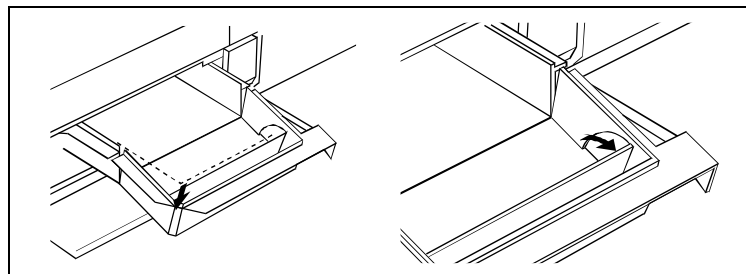

Figure 6-30. Tilting Down the Paper Cassette
2. Tilt down the front edge of the paper cassette and make sure the partition in the cassette is in the vertical position (Figure 6-30).